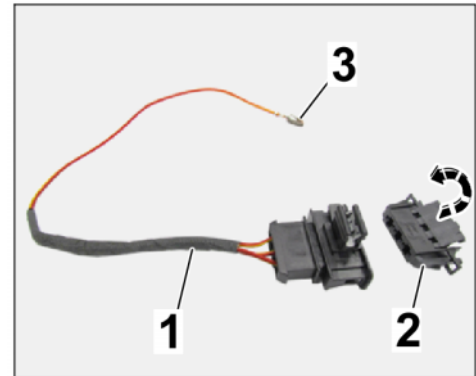

Figure 31
2.6.1 Disconnect plug connection (3-pin) of adapter cable and release/open plug socket (3-pin) (\Rightarrow *Figure 31*).